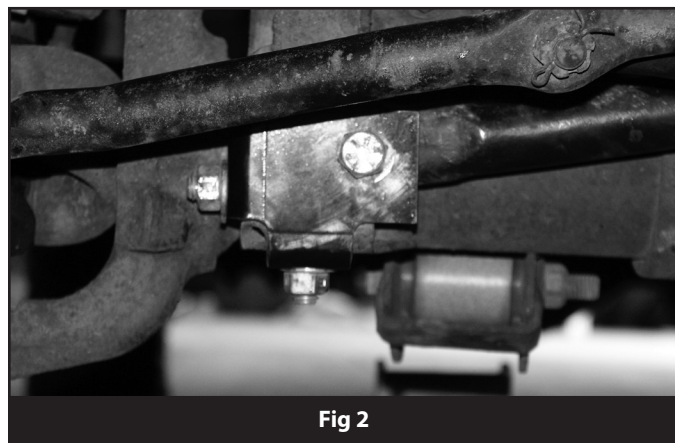

Fig 2
12. Install the new backing plate between the back of the axle bracket and the axle tube. Install the track bar in the new bracket and fasten with the provided bolt and washer through the new bracket, track bar, OE axle bracket, and thread into the welded nut on the backing plate. Torque the bolt to 95 ft-lbs (Fig 2). **Note:** Turn the steering wheel to align the track bar with the hole in the track bar bracket. Do not tighten the track bar bolt without the weight of the vehicle on the axle.